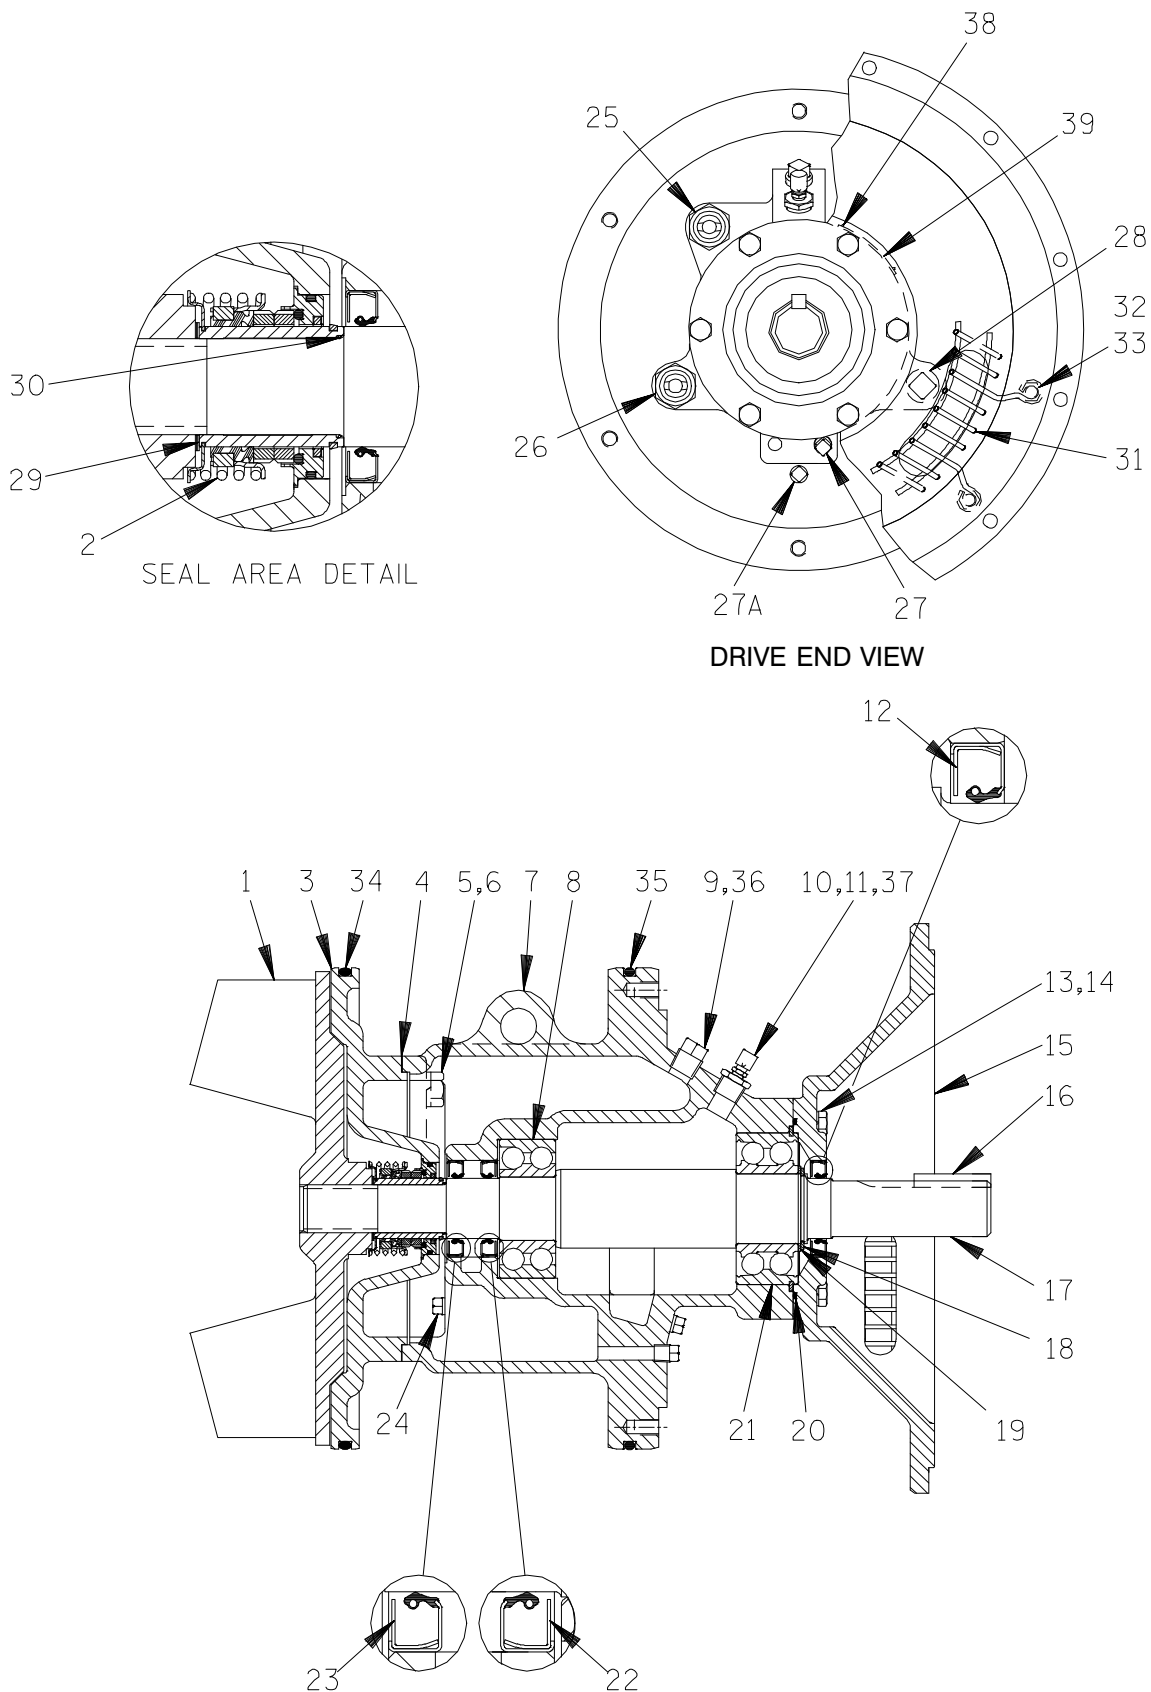

Figure 4. 44163-357 Repair Rotating Assembly
Disengage the hardware (6 and 7) securing the drive flange to the engine bellhousing, and remove the guards (31, Figure 4). Separate the pump end and drive assembly from the engine by pulling the pump end straight away from the engine.
As the assemblies separate, the flexible portion of the coupling assembly (3) will remain on the shaft. To remove the coupling from the shaft, unscrew the two allen head setscrews from the bushing (2). Screw one of the setscrews into the puller hole on the circumference of the bushing. As the coupling and bushing separate, remove the bushing, and slide the coupling off the shaft. Remove the shaft key (16, Figure 4).
(Figure 4)
To install the tool, remove the vented plug (9, Figure 4) from the bearing housing, and screw the longest length of pipe into the vent hole until fully engaged. Install the tee, and screw the handles into the tee. Use caution when lifting the rotating assembly to avoid injury to personnel or damage to the assembly.